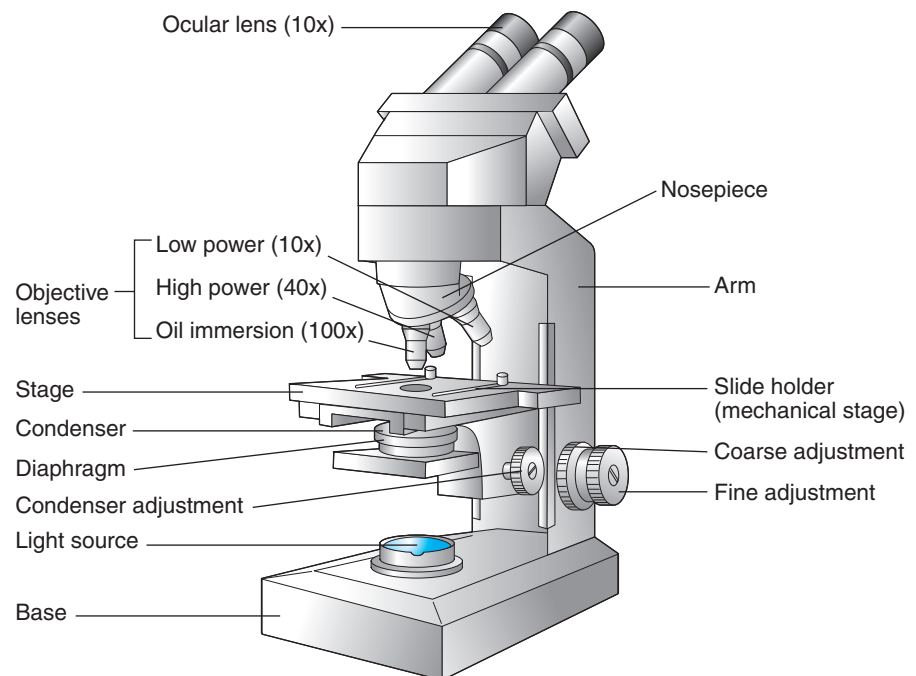

FIGURE 1
2. The instructor will point out the major parts of the microscope and their functions. These parts include the **ocular lens** (the eyepiece), the various **objective lenses**, the **stage** and **slide holder** (mechanical stage), the **condenser** and **diaphragm**, the **coarse** and **fine adjustments**, and the light source. Note the position of each of these parts in **Figure 1**, and enter the functions as explained by the instructor in **Table 1** in the Results section. Binocular microscopes should have a mechanism for adjusting the distance between the eyes.